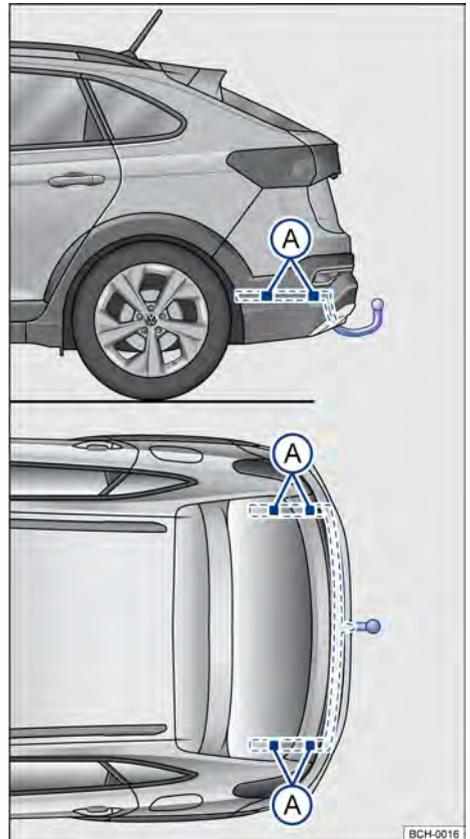

Fig. 168 Attachment points for retrofitting a towing bracket.
Figure → Fig. 168 illustrates as an example the fastening point to install a towing bracket on the Nivus model.
Towing bracket retrofitting must be executed in accordance with the instructions provided by the bracket's manufacturer, always considering the attachment points indicated in → Fig. 168 (A).